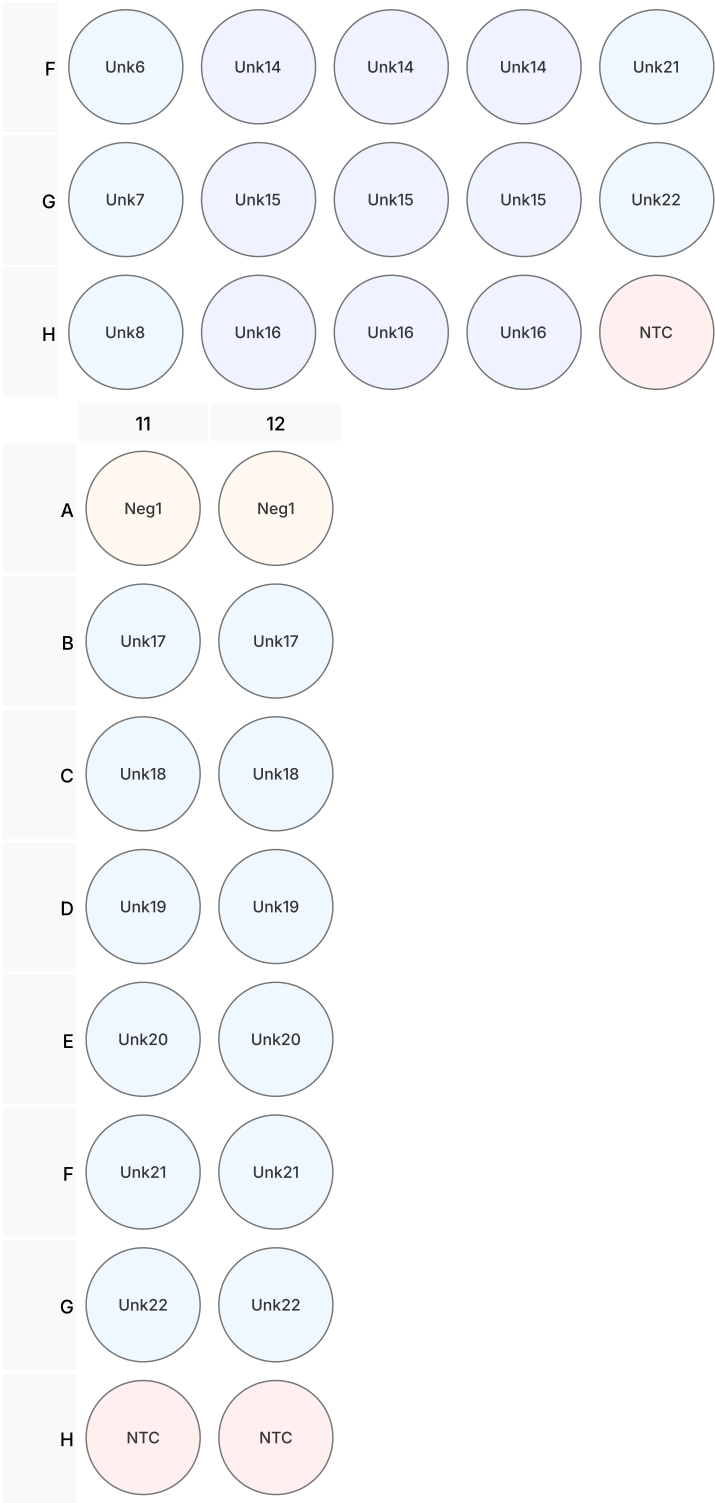

Figure 5.1. Example qPCR plate layout. Std – standards, Unk – tested samples, Neg – extraction blank, NTC – non-template control (qPCR blank)
- 15.1 Prepare plate layout, including wells for standards (8 concentrations in 3 replicates each = 24), extraction blank, non-template control (NTC), tested samples in duplicates or triplicates. Example plate layout: Figure 5.1.